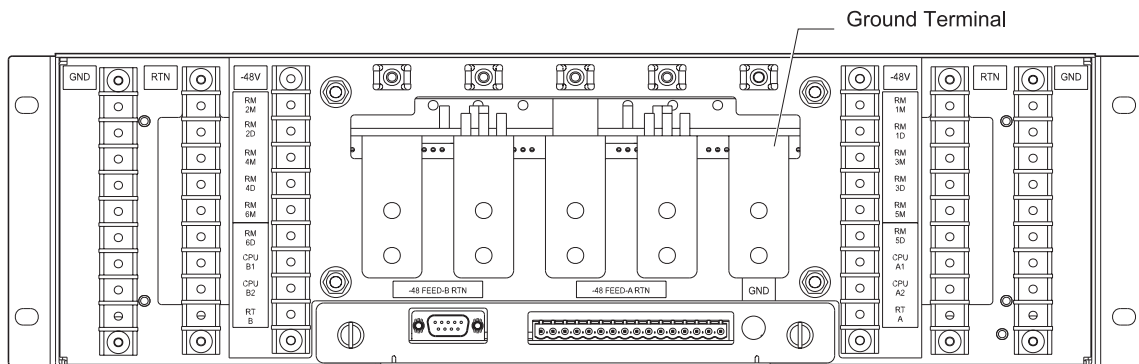

Figure 4.14 Ground Terminals on the PDP
- 5 Connect the compression lug on the main ground cable to one of the two ground terminals, as shown in Figure 4.14. Use a hex nut with a split-lock washer when securing the cable. Torque each hex nut to 0.90 N•m (8.0 inch-pounds).